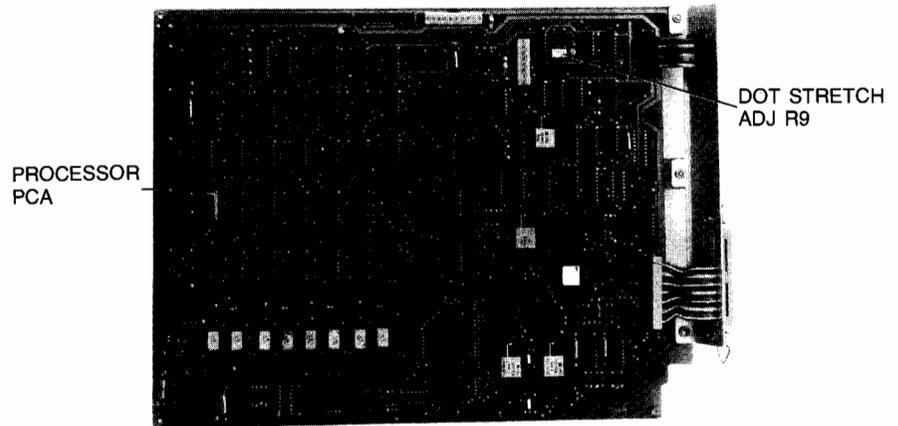

Figure 5-5. Dot Stretch Adjustment Location
8. While observing the display, adjust the dot stretch adjustment (figure 5-5) on the Processor PCA to produce either uniform width of the vertical and horizontal lines which form a character or the most desirable overall display effect.